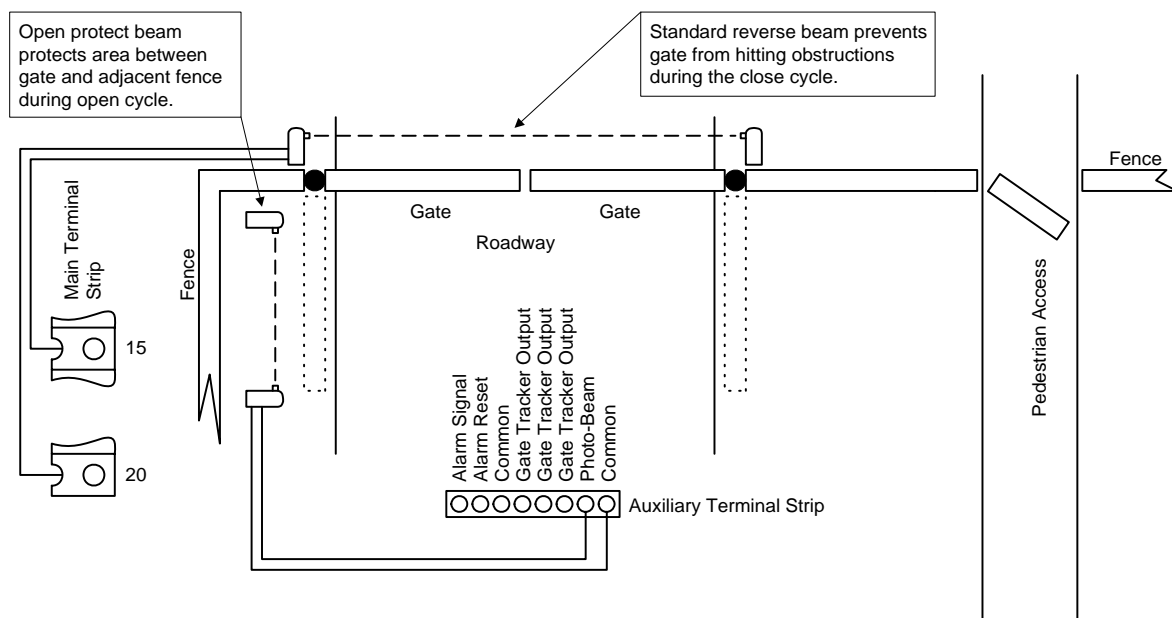

Figure 29
- See Figure 29 for suggested placement of sensors. (Diagram is for illustration purposes only. Actual placement of sensors is dependent on the installation requirements).